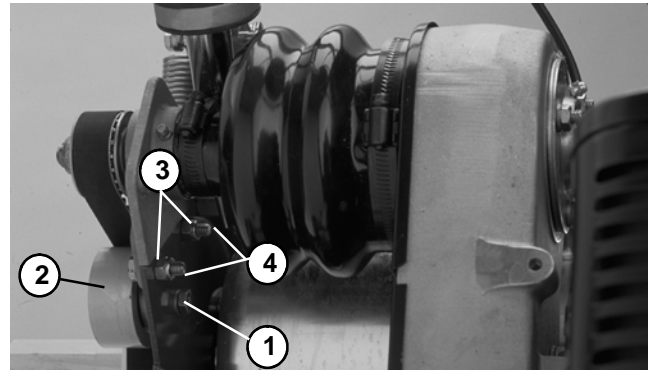
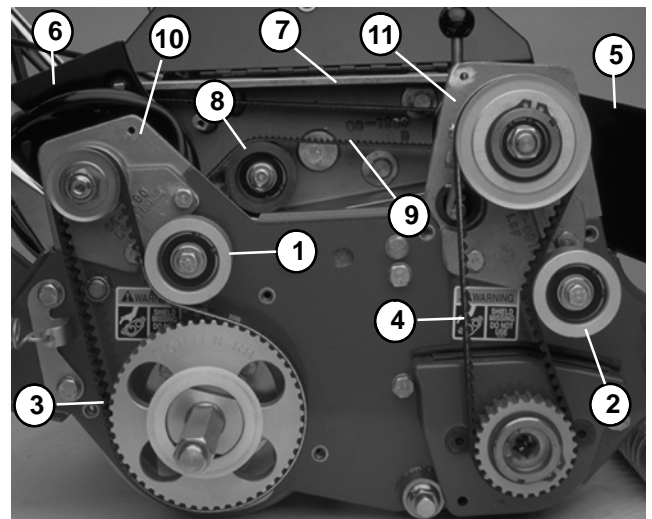

Figure 46
Figure 48
3. Loosen cap screws securing drum and reel drive idler pulleys and spacers to the right side plate (Fig. 46 and 47). Rotate each idler pulley counterclockwise away from the backside of each belt to release belt tension. Remove both belts (Fig. 48).
4. Remove capscrews and lock washers securing the front and rear box covers to the counter shaft housing. Slide covers away from the housing to expose the belt (Fig. 48).
5. Loosen cap screw on the engine side of the counter shaft housing that secures the idler pulley and spacer. Rotate idler pulley counterclockwise away from the backside of the belt to release belt tension. Cut belt and remove belt from the countershaft housing (Fig. 48).
6. Remove both cap screws and locknuts securing the right rear bearing housing to side plate. Rotate housing 180° so the bottom of the housing points upward (Fig. 46 and 48).
9. Rotate clutch and right rear bearing housings back into the upright position. Secure both housings to the sideplate with previously removed cap screws and lock nuts (Fig. 48).